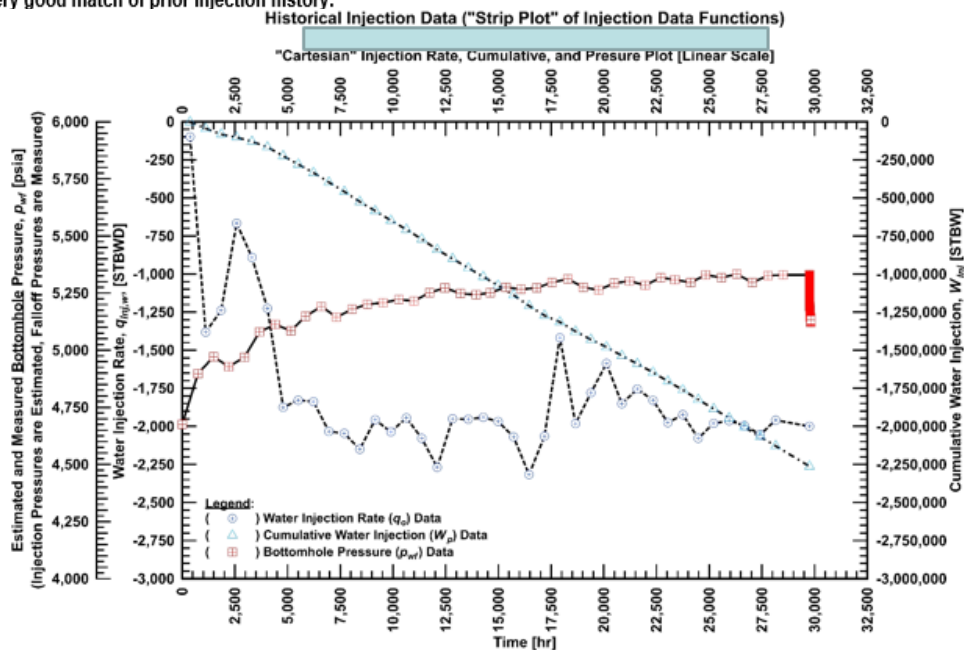

Figure 1 — "Strip Plot" of Injection Rates, Cumulatives, and Pressures (includes PFO test data).
- Review injection rate and estimated bottomhole pressure history (Fig. 1).
- From Fig. 1, erratic injection rates, roughly correlate with features in the pressure profile.
A horizontal well in Oklahoma can only sustain production from gas lift. Water production loads the well very quickly. An array Production log was run on coil while nitrogen was continually pumped to keep well flowing during logging. The completion is shown in Figure 1.
A disposal well with a 4.5” uncemented slotted liner from 10631’ to 12051’ is being evaluated for vertical conformity of injection (see **Figure 1**). The well is shut in the morning. A shut in logging pass is made later in the day, then the pumps are shut on to establish a 3.7 barrels water per minute stable rate. A production log is then run with two up and down passes at different speeds, along with stationary measurements to evaluate injection.
Well Schematic—Fig. 1